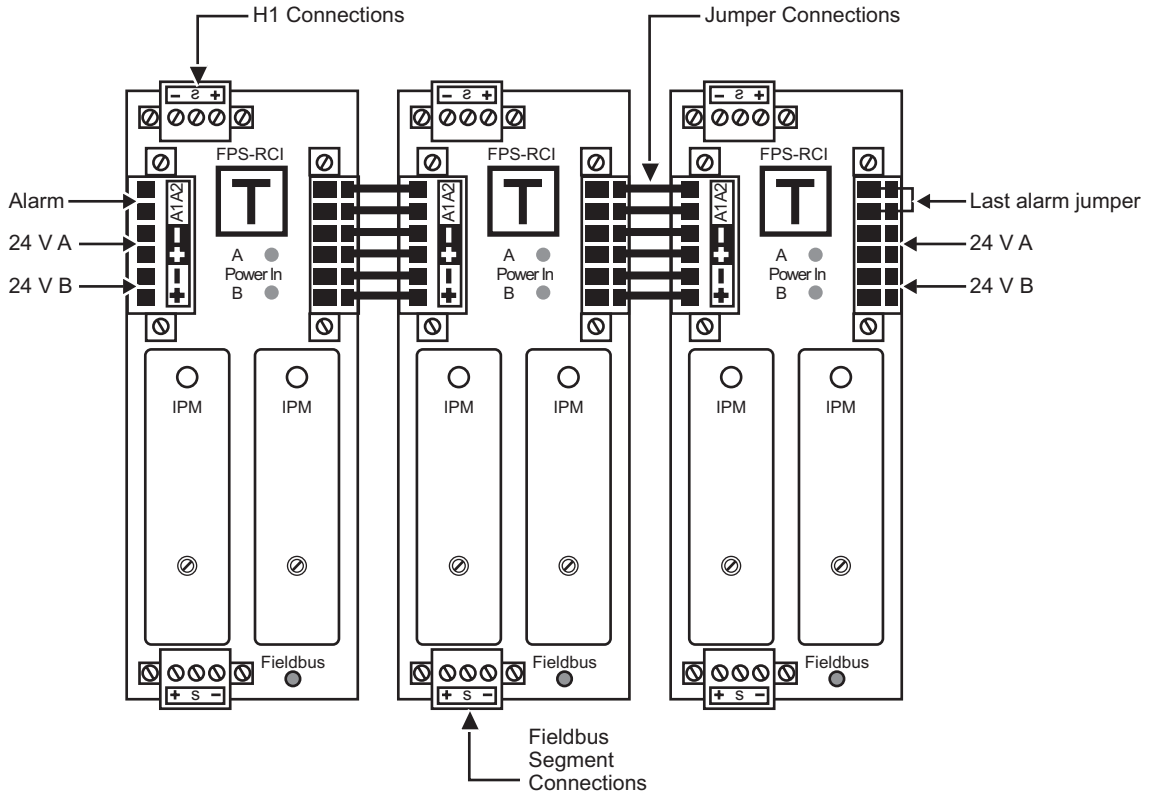

Figure 2 Multiple Fieldbus Power Systems
The FPS-I consists of two isolated power modules (IPM) that plug into each Redundant Coupler (RC). The IPMs are removable under power. The RCs are mounted on a DIN rail. One RC is used for each fieldbus segment. RCs can be connected together with pre-made jumpers to add additional fieldbus segments as shown in Figure 2 on page 1-4. One fieldbus terminator is built into each RC. Remember that each segment must have two terminators.
- Two 6-position pluggable connectors for two nominal 24 VDC input power sources and an alarm circuit. When the FPS-I is powered and functioning within its specifications, the alarm circuit provides a closed contact circuit. A failure in either input power supply, either IPM, or an over-current or short on any fieldbus output, opens the alarm circuit. The alarm circuit is galvanically isolated from the fieldbus segments and input power supplies. Connect the alarm pins together to complete the circuit. When using multiple Fieldbus Power Systems, connect together the last alarm pins in the group as shown in Figure 2.
Figure 2 shows multiple Fieldbus Power Systems connected together with pre-made jumpers. To add RCs without removing power to the other units when using multiple Fieldbus Power Systems, wire the two power sources to both ends of the group.
Refer to Figure 2 on page 1-4.